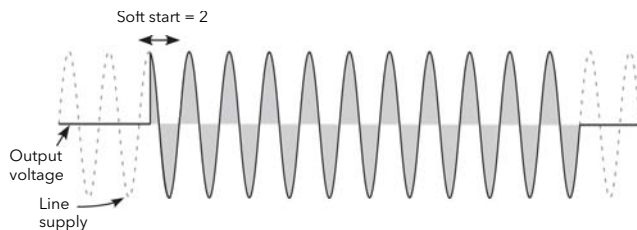

Figure 85 Soft start example
- Soft Start** For Burst Firing only, this is the soft start duration, in supply voltage cycles, applying a phase angle ramp at the beginning of each on period (Figures 85).